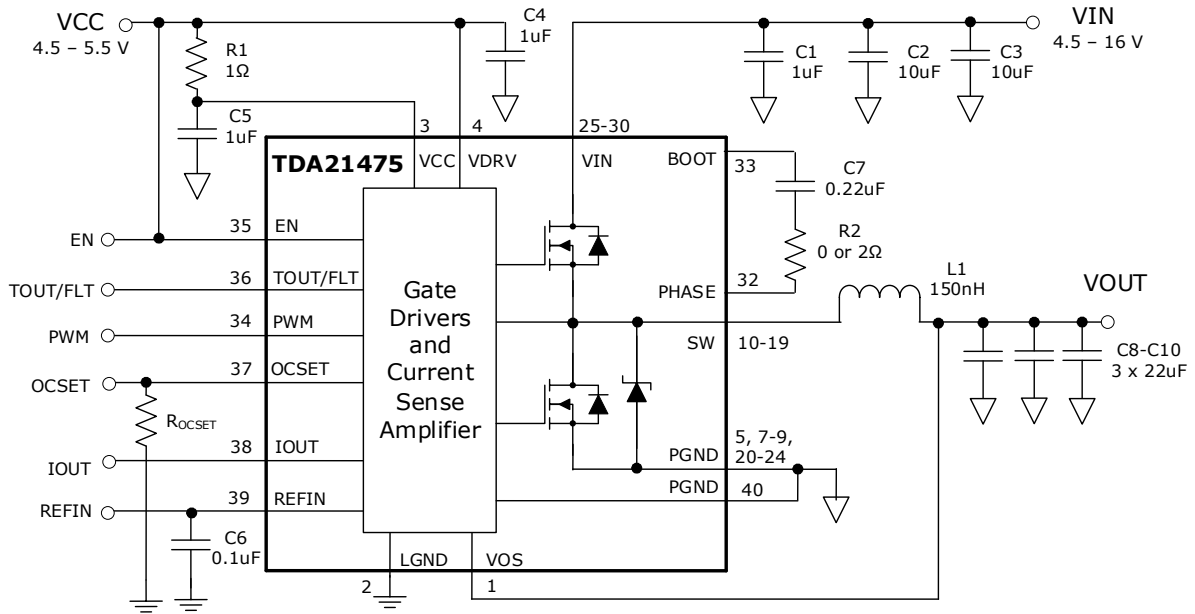

Figure 12 Typical Application Diagram for Single-Phase Voltage Regulator
Single Phase Circuit of Figure 12, $V_{IN} = 12\text{ V}$, $V_{OUT} = 1.8\text{ V}$, $f_{SW} = 600\text{ kHz}$, $L = 150\text{ nH}$, $V_{CC} = V_{DRV} = 5\text{ V}$, $T_{AMBIENT} = 25^\circ\text{C}$, no heat sink, no air flow, 8-layer PCB board of 3.7”(L) x 2.6”(W), no PWM controller loss, no inductor loss, unless specified otherwise.